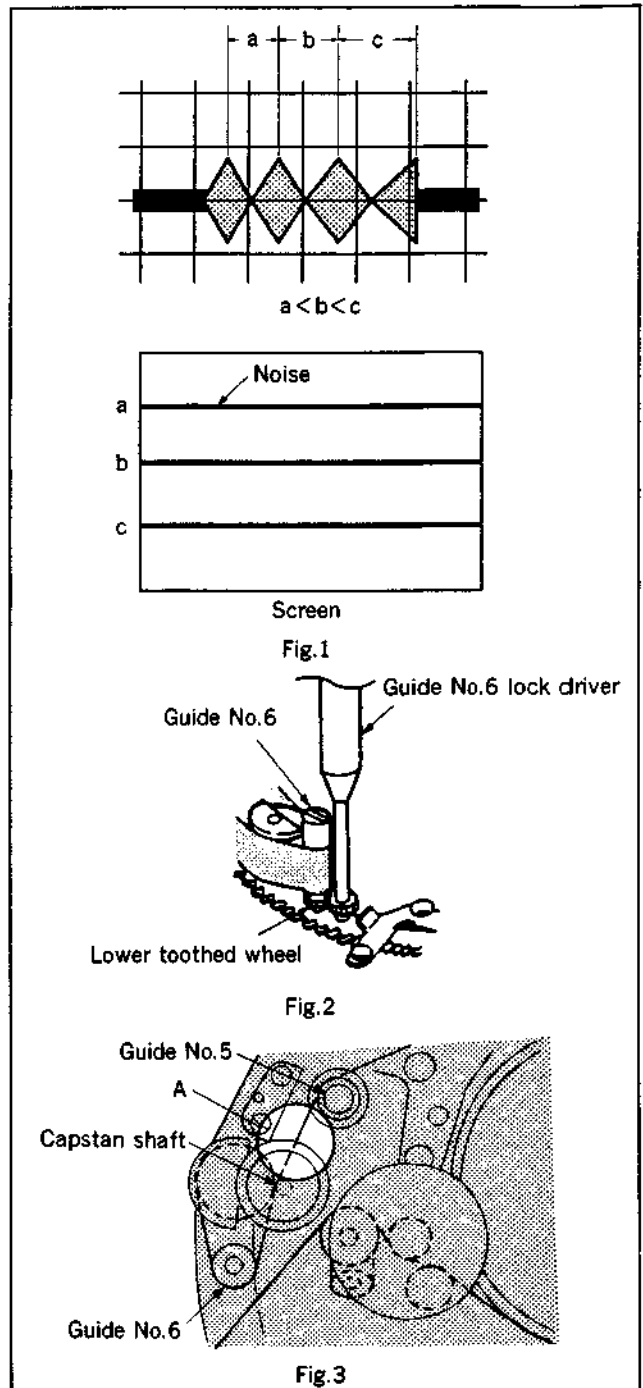

Fig. 6-4-4 Exite side noise pitch adjustment
See Fig. 6-4-4 (1).
5-6. Rotate the lower toothed wheel using Guide No.6 lock driver, in counterclockwise direction to loosen it. (See Fig.6-4-4 (2).)
Note: If Guide No.6 is raised too high, tape wrinkle will result at portion-A between capstan and Guide No.5. So check for tape without wrinkle. (See Fig.6-4-4 (3).)